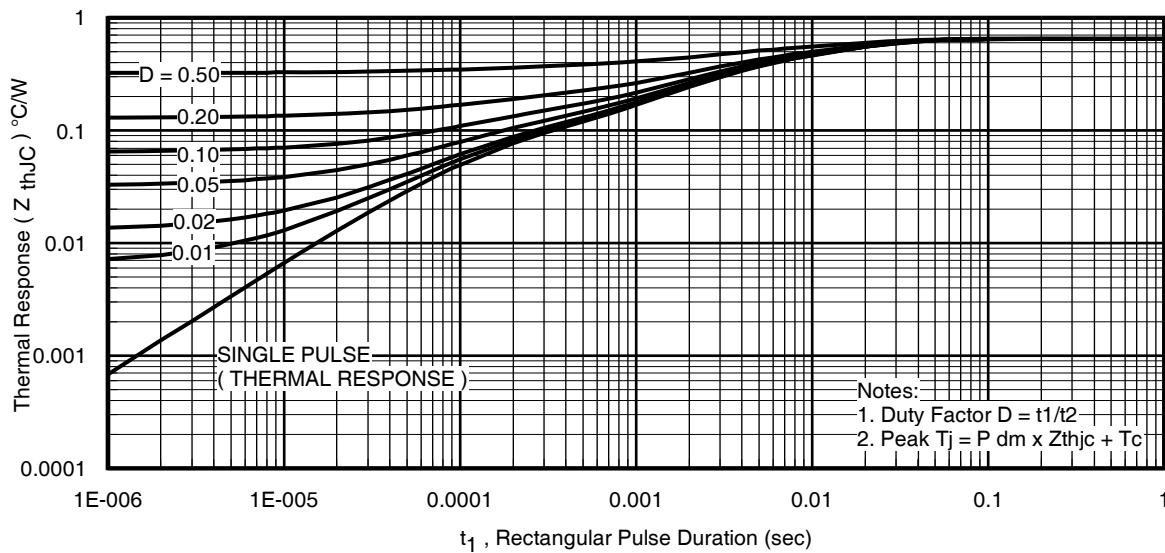

Fig 14. Maximum Effective Transient Thermal Impedance, Junction-to-Case
Notes on Repetitive Avalanche Curves , Figures 14, 15: (For further info, see AN-1005 at www.irf.com)
7. ΔT = Allowable rise in junction temperature, not to exceed T_{jmax} (assumed as 25°C in Figure 14, 15).